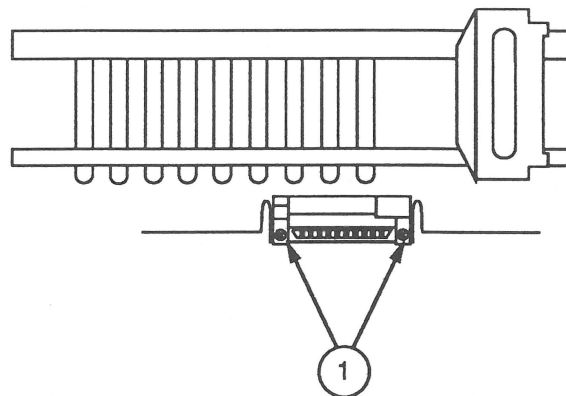

FIGURE 48
9. Turn the printer so the rear is facing you and remove the two small screws (Figure 48, #1) from the SheetFeeder connector bracket.